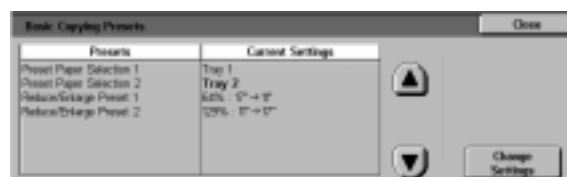

Figure 43: Basic Copying Presets screen
- 2 Touch the **Basic Copying Presets** button to display the Basic Copying Presets screen, as illustrated in Figure 43.